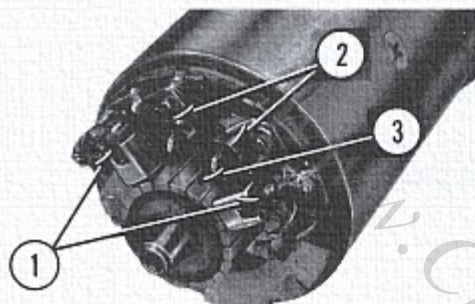

Fig. 82 Commutator and Brushes
Inspect carbon brushes ① (Fig. 82), and replace if worn to the limit of their travel within the brush holders, or refer to the shop manual for service limits in terms of brush length. Check brush springs ②, and replace if weak or broken. Refer to the shop manual for spring tension service limits.